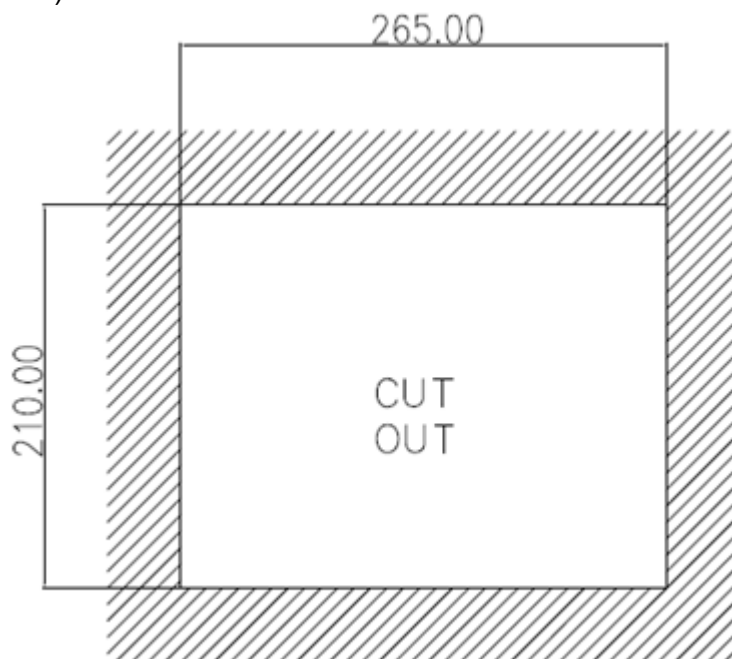

Figure 2.26 PPC-3100S cut out dimensions
1. Cut out a panel corresponding to the size shown in Figures 2.26, 2.27, and 2.28. (unit: mm).